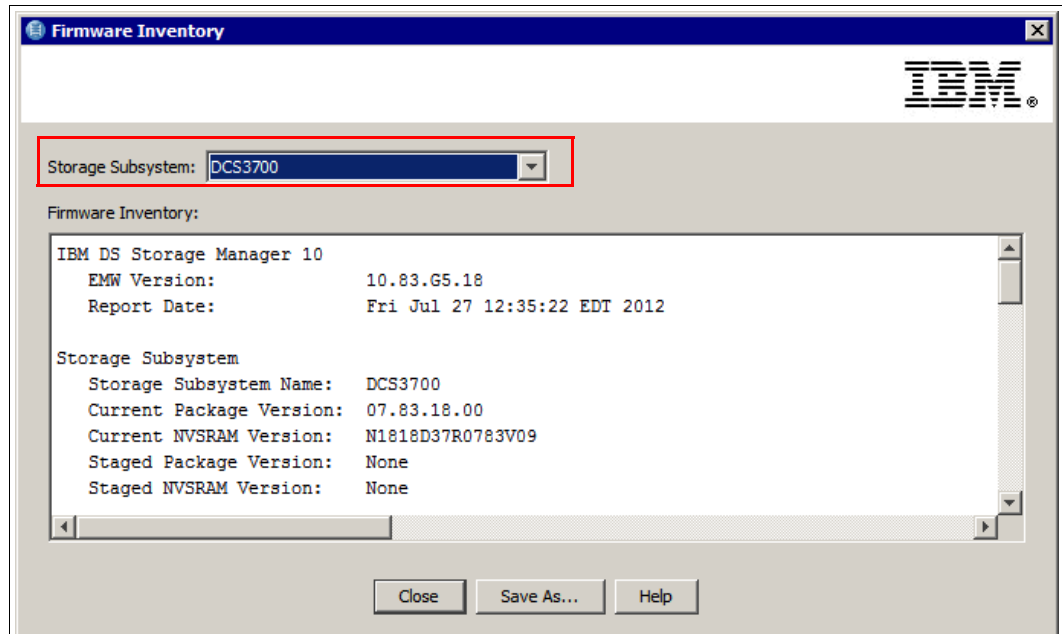

Figure 14-6 Enterprise Management - Firmware Inventory
1. Click **Tools** → **Firmware Inventory** from the Enterprise Management window. Figure 14-6 shows the Firmware Inventory window that opens. From this window, it is possible to select different storage subsystems.